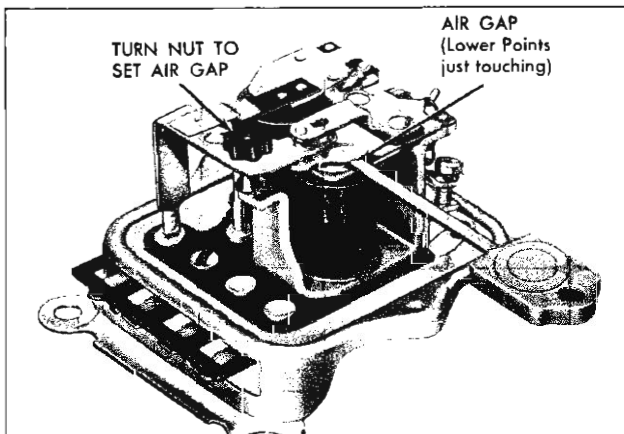

Fig. 33—Checking Voltage Regulator Air Gap
2. **Air Gap:** Measure the air gap with a feeler gauge placed between the armature and core when the lower contacts are touching as shown in Figure 33. To adjust the air gap, turn the nylon nut located on the contact support.